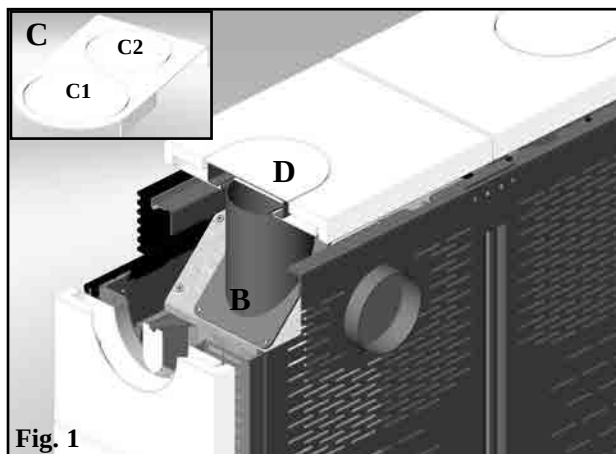
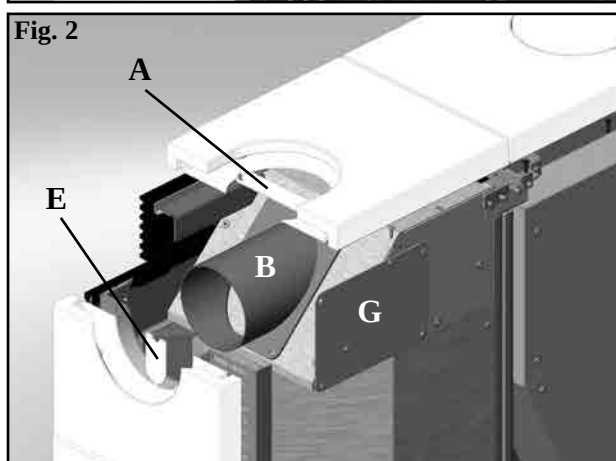
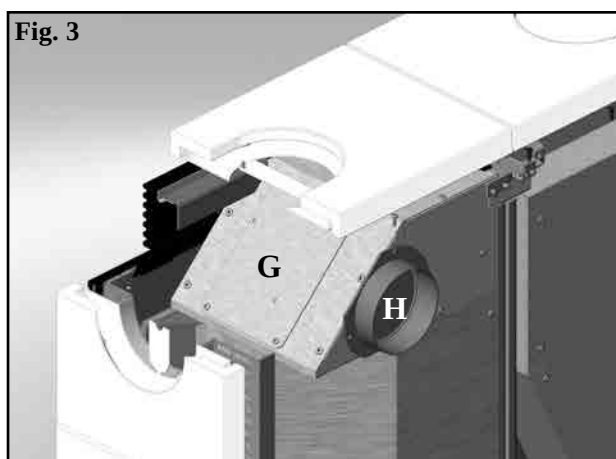

Fig. 1
Fig. 2
Fig. 3
In order to connect the outlet you must use the pre-cut lid provided separately (C) by removing the diaphragm C1, instead of the uncut lid (D - fig.1).
Remove the pre-cut diaphragm (A - fig. 2) from the metal plate of the right ceramic support and attach the connecting sleeve (B - fig. 1).
To connect the channelling pipe all you need to do is remove the pre-cut diaphragm (E - fig. 2) from the metal plate of the right ceramic support and attach the connecting sleeve (B - fig. 2). Fit the tube over the connecting sleeve (B) by sliding it through the hole in the ceramic (in this case, the ceramic cap is not used).
It is also possible to set the stove up with the channelling pipe outlet on the back (fig. 3). In this case you must remove the lid from the rear outlet (G-fig.2) and attach it in position G - fig. 3.
Install the required connecting sleeve (H-fig.3) and fit it onto the channelling pipe.
In order to connect the pipe (not supplied) simply fit it onto the elbow joint (G-fig.5) which is already mounted on the stove and accessible by opening the righthand glass door (fig. 5). An inspection lid for cleaning (H) is located on the elbow joint (G). When using the top outlet you must use the pre-cut lid (C - fig. 1 on page 39) by removing the diaphragm C2, in place of the uncut lid (D - fig. 1 on page 39).